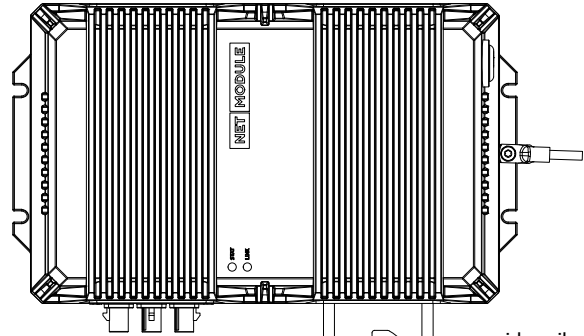

figure9
- 6.3 Place the Molex cable into the Molex connector until the guide rail of the bracket is in the right position to hold the guide bolt of the Molex connector (figure9)